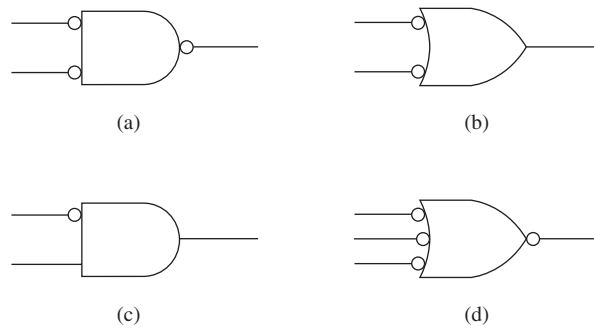

Figure P5-29
- 5-29. Use the bubble-pushing technique to convert the gates in Figure P5-29.